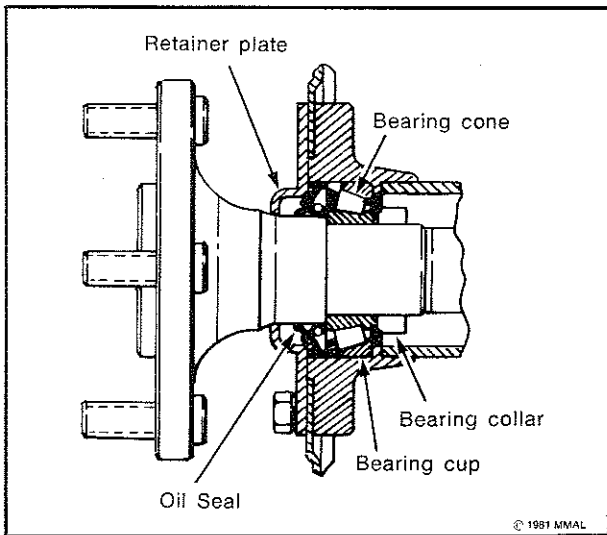

Fig. 3—Axle shaft components
**NOTE:** The oil seal is outboard of the bearing cone and will be removed with the axle shaft — The bearing cup may become detached from the bearing and remain in the housing — refer Fig. 3 .
- (5) Remove the bearing cup, where necessary using a suitable tool.